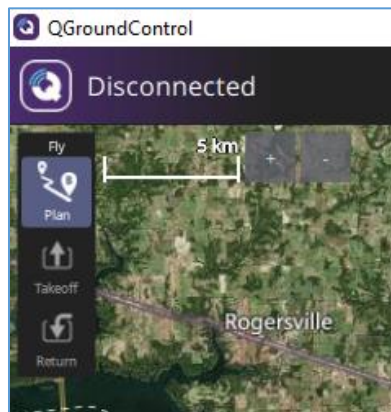

Figure 25: Q Ground Control Startup Options
2. Click the “Plan” button on the left side of the window to bring up your planning options (Figure 25).